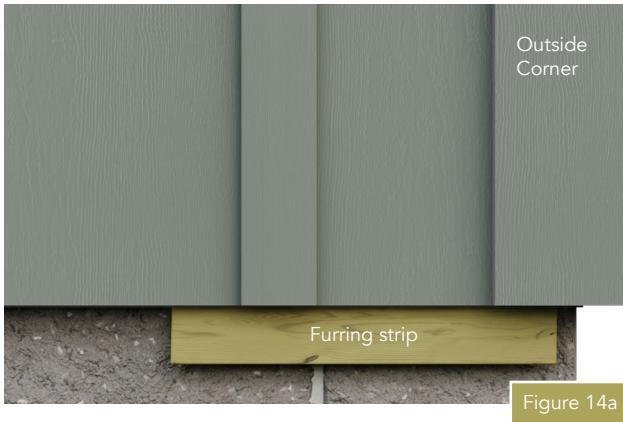

Figure 14a
- Use a temporary fastener or furring strip at the bottom of the course to prevent the panel from sliding down. Remove this fastener and/or furring strip once the silicone adhesive has cured. The last two courses will move as one unit (Figure 14a/b).